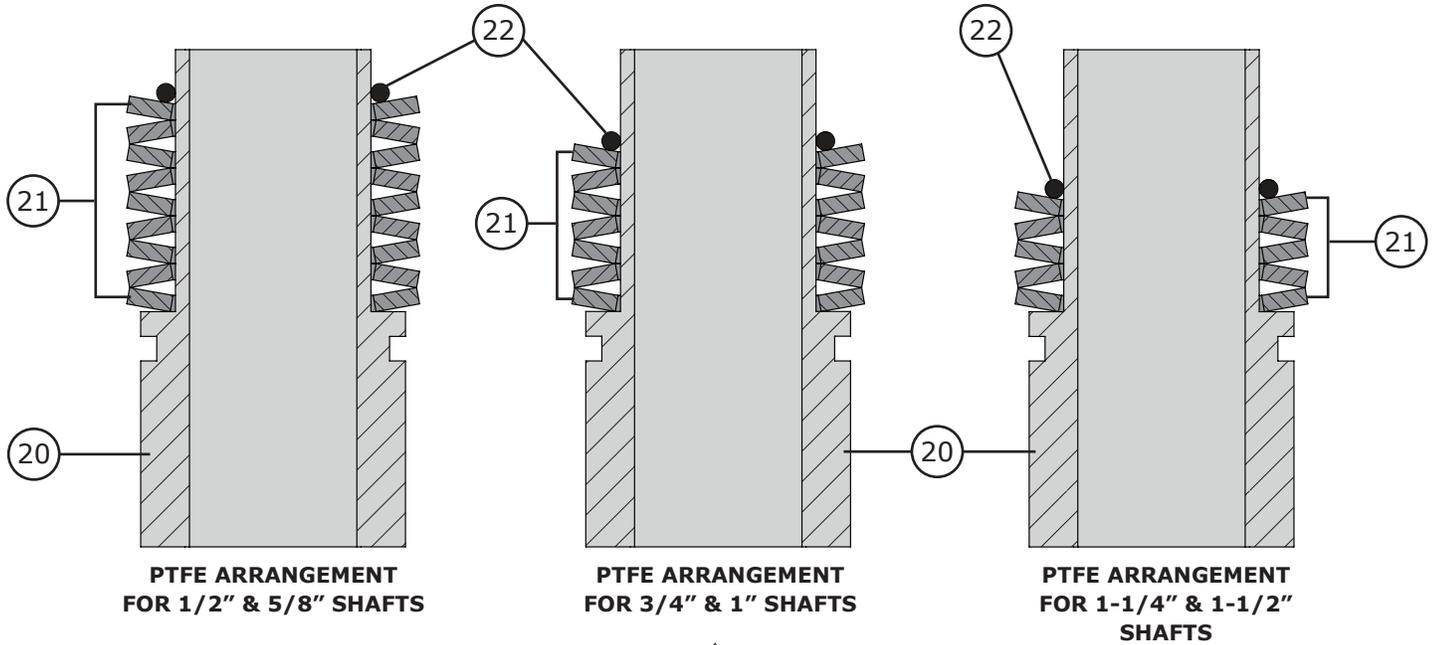

Figure 61 Live Loaded PTFE Spring Washer (Key 21) Arrangements
- 5 Install the spring washers (Key 21) onto the packing follower (Key 20) in the order and orientation shown in Figure 61. Secure the spring washers in place using the packing flange o-ring (Key 22).